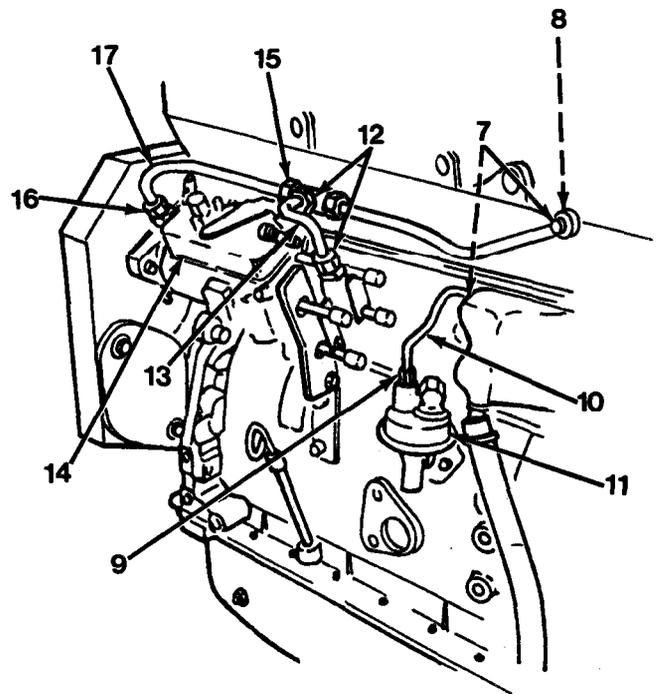

Figure 7-4
1. Install low-pressure tube assembly (17) to injection pump (14) and tighten nut (16, Figure 7-4).
2. Install low-pressure tube (13) to injection pump (14) and tee fitting (15) and tighten two nuts (12).